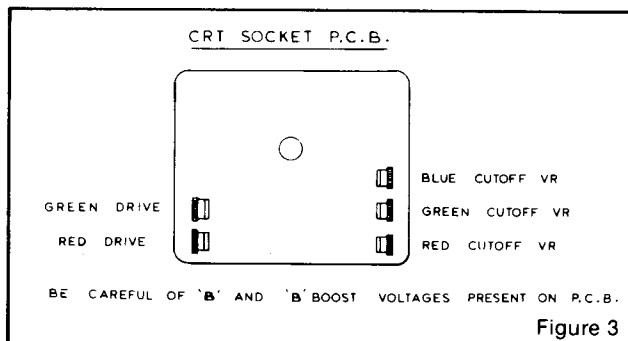

Figure 3
- 4.8 CRT cut off controls (See fig. 3)
- 4.9 Video drive controls (See fig. 3)
1.5 Turn off the green and blue fields and adjust setup controls to produce a red field. (See fig. 3)
Refer to figure 3. Do the following in subdued light: